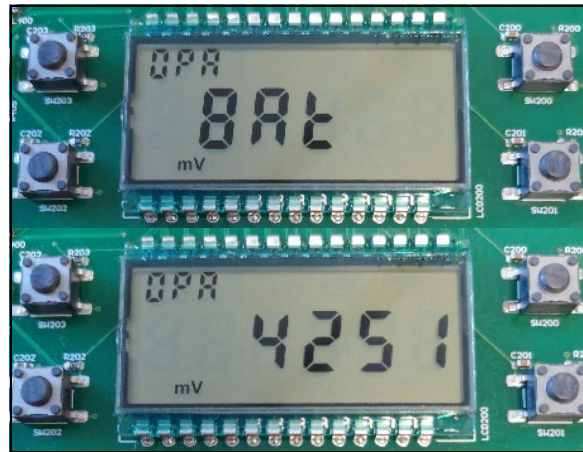

FIGURE 18: LCD Menu - Power Supply Voltage.
- the power supply voltage (Figure 18).